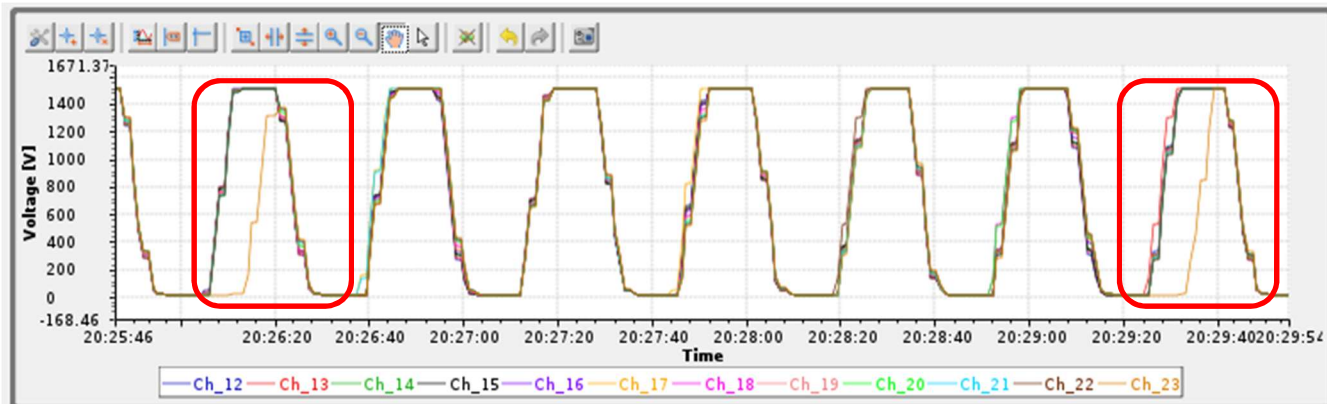

Fig.19 – Zoomed view of *Voltage Ramp Test CSS-BOY* screen shows channel 17 latency of 8 s to ramp up
2. Noticed that P_w PV readout for channel 17 had an update latency of ~ 8 s while ramping to set voltage. Issue occurred two times and it was recover by itself in next cycles. See fig.19